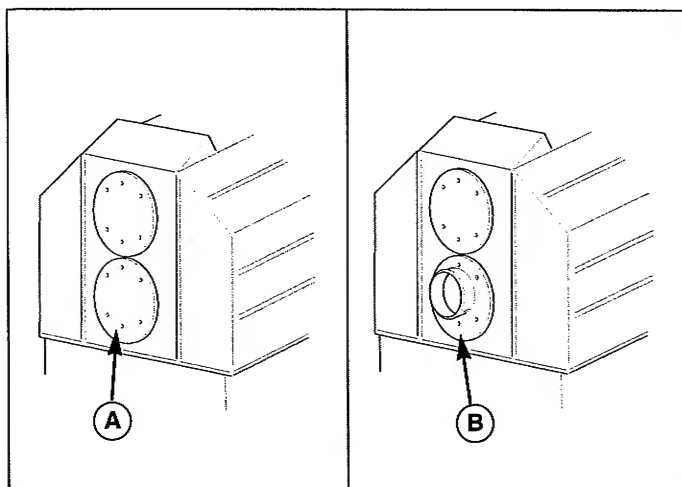

Figure 3. Install Adapter Plate
1. Remove the cover plate (A, Figure 3) from the lower opening of the front of the cart.
2. Install the adapter plate (B, Figure 3) in the lower opening of the cart. Secure with using the hardware removed in step 1.